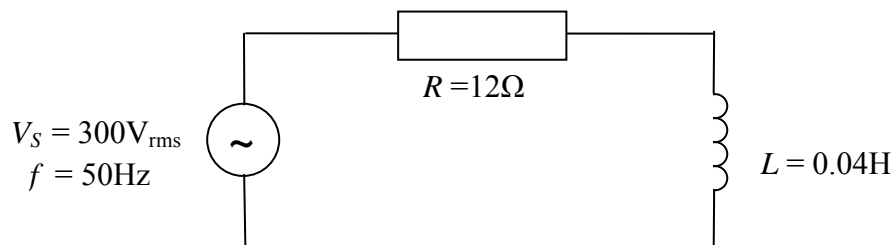

Figure 2.1
- (ii) Calculate the reactive power in kVAr. (1)
- (iii) Calculate the magnitude of the current drawn from the supply. (1)
- (i) Calculate the new kVA rating of the factory. (4)
- (ii) Calculate the new overall power-factor and state whether it is lagging or leading. (2)
- (iii) It is decided to connect a capacitor in parallel with all the other loads (i.e factory, process heaters and the motor) to correct the power-factor to unity. Find kVAr rating of the capacitor, the magnitude of the current drawn by the capacitor, and its value in Farads. (3)
- (iv) What is the peak voltage the capacitor must withstand under normal operating conditions. (1)
- a. The coil of an electromagnet can be modelled as a resistance, $R = 12\Omega$ in series with an inductance, $L = 0.04\text{H}$. The electromagnet is connected to a 300V_{rms} , 50Hz sinusoidal supply, V_S , as shown in Figure 2.1.